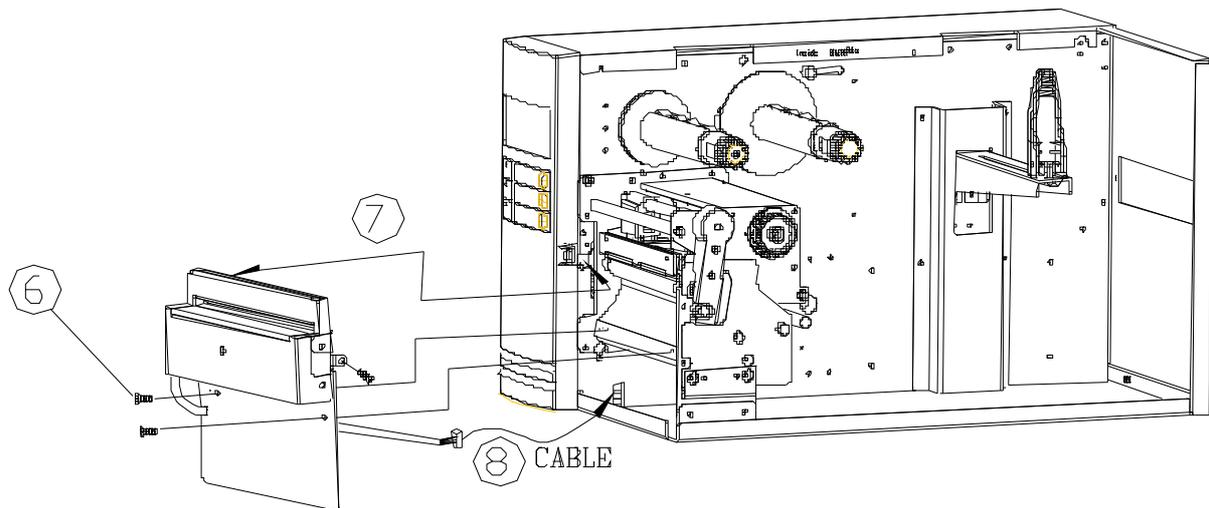

Figure 7.4
5. Thread the cutter cable (8) through a hole (Refer to the arrow of Figure 7.4) and route it to JP14 connector (CUTTER) on the Main Board.
6. Insert the left side of cutter bracket (7) and secure three screws (6) to the TPH module (Figure 7.4).